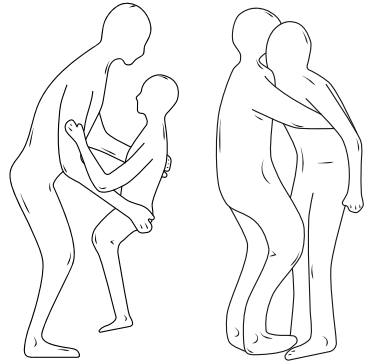

Fig. 1 Ways to sustain the user
- place the user in the device (Fig. 1),
- pull the user out of the product (Fig. 1).